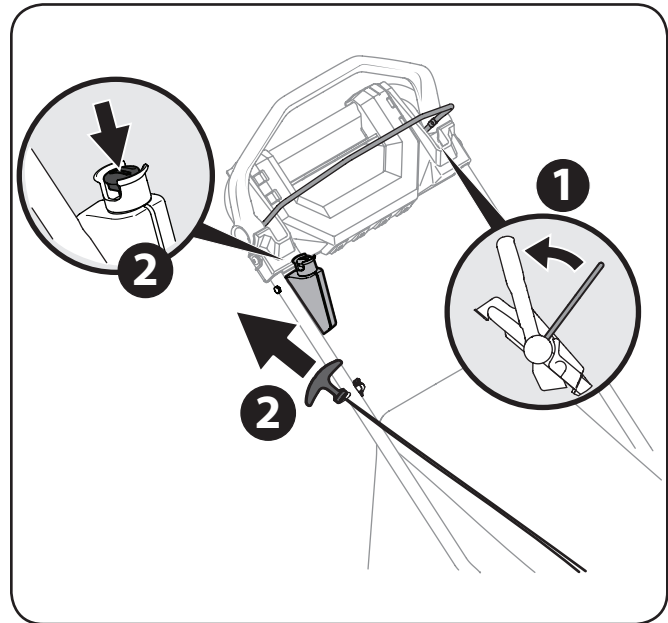

Figure 5-1
1. Standing behind the mower, pull the blade control back against the drive control. See Figure 5-1.
2. **Recoil Start:** While holding the blade and drive controls together firmly, grasp the recoil starter handle and pull rope out with a rapid, continuous, full arm stroke. See Figure 5-1. Keeping a firm grip on the starter handle, let the rope rewind slowly. Repeat until engine cranks. Let the rope rewind each time slowly.
Electric Start (If Equipped): Insert plastic push key into starter button until it snaps in. Push the electric starter button to start the engine. See Figure 5-1.